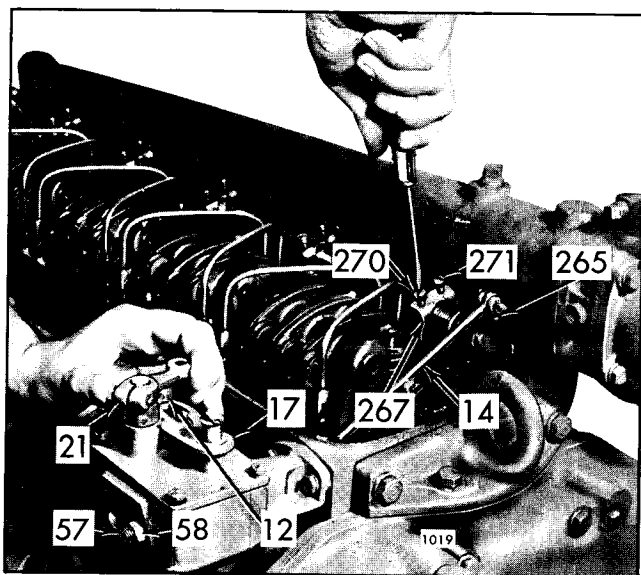

Fig. 3 - Positioning No. 1 Injector Rack Control Lever
1. Refer to Fig. 3 and disconnect any linkage attached to the governor control lever (21).
2. Loosen the lock nut (58) and back out the buffer screw (57) approximately 5/8".
4. Loosen all the inner adjusting screws (270) and outer adjusting screws (271), as shown in Fig. 3. Be sure all the control levers (267) are free on the injector control tube.
5. Move the governor control lever (21) to the FULL FUEL position as shown in Fig. 3. Turn the inner adjusting screw down until a step up of effort is noted. This will place the No. 1 injector rack in the FULL FUEL position. Turn down the outer adjusting screw until it bottoms lightly on the injector control tube. Then alternately tighten both the inner and outer adjusting screws until tight.
8. Remove the clevis pin between the fuel rod and the injector control tube lever (265), Fig. 3.
12. Insert the clevis pin between the fuel rod and the injector control tube lever (265), Fig. 3.
Adjust the No. 1 injector rack control lever (267), Fig. 3, first to establish a guide for adjusting the remaining injector rack control levers.
4. Loosen the lock nut (58) and back out the buffer screw approximately 5/8".
5. Loosen all the inner (270) and outer (271) adjusting screws. Be sure all control levers are free on the injector control tube.
6. Move the speed control lever to the maximum speed position as shown in Fig. 3. Hold the lever in that position with light finger pressure. Turn the inner adjusting screw on the No. 1 injector rack control lever down until a slight movement of the control tube is observed or a step up in effort is noted. This will place the No. 1 injector rack in the full fuel position. Turn down the outer adjusting screw until it bottoms lightly on the injector control tube. Then alternately tighten both the inner and outer adjusting screws until tight.